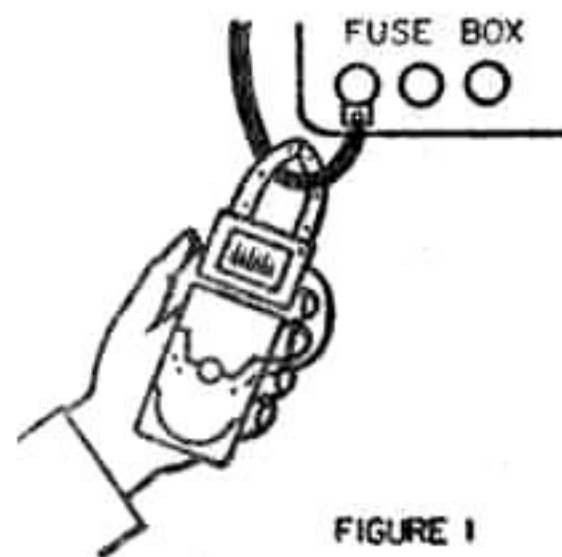

FIGURE 1
(4) Set the switch of the Model 10-C adapter to the highest AC ampere range. Press lever to open jaws. Place jaws around one of the conductors feeding the circuit, release lever to close jaws and read meter. (See Fig. 1).